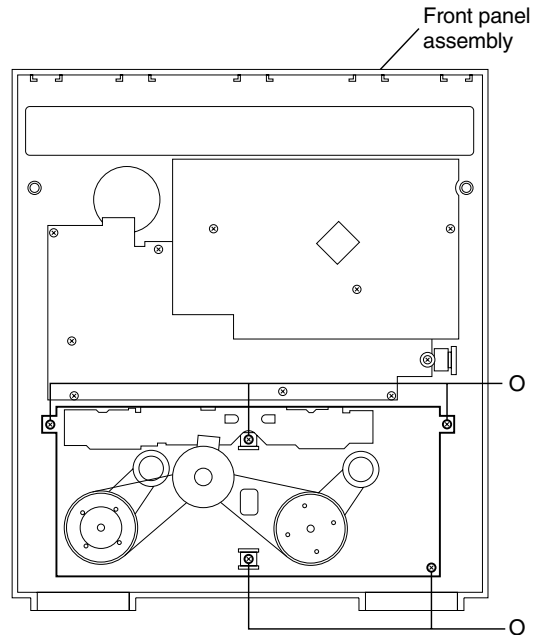

Fig.21
■ Removing the cassette deck mechanism (See Fig.21)
■ Removing the cassette deck main motor, and replacing the main belts (See Fig.21, 27 and 28)
■ Removing the leaf switches of the cassette deck mechanism (See Fig.21 and 29)
■ Removing the cassette deck heads (See Fig.21 and 30)